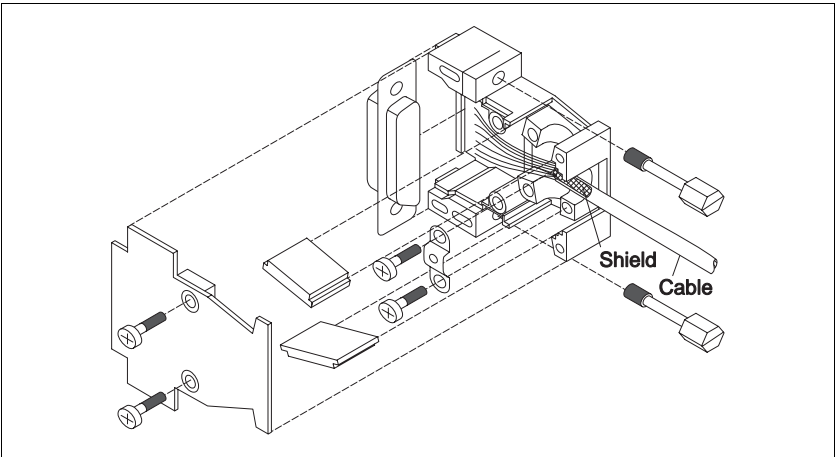

Fig. 2-19 Interface connector assembly
3. Insert two hexagon head screws into the connector shell (fig. 2-19).